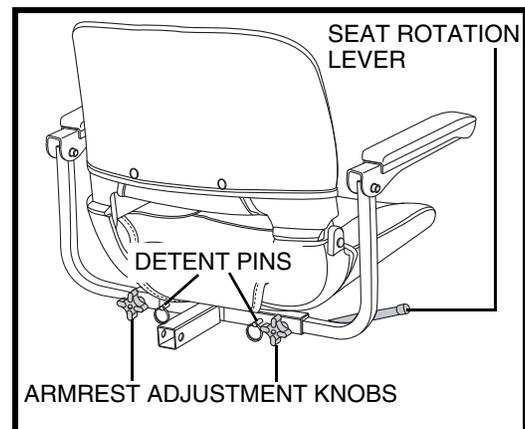

Figure 16. Seat Adjustment
1. Pull up on the seat rotation lever to disengage the seat. See **figure 16**.
1. Loosen the armrest adjustment knobs. See **figure 16**.